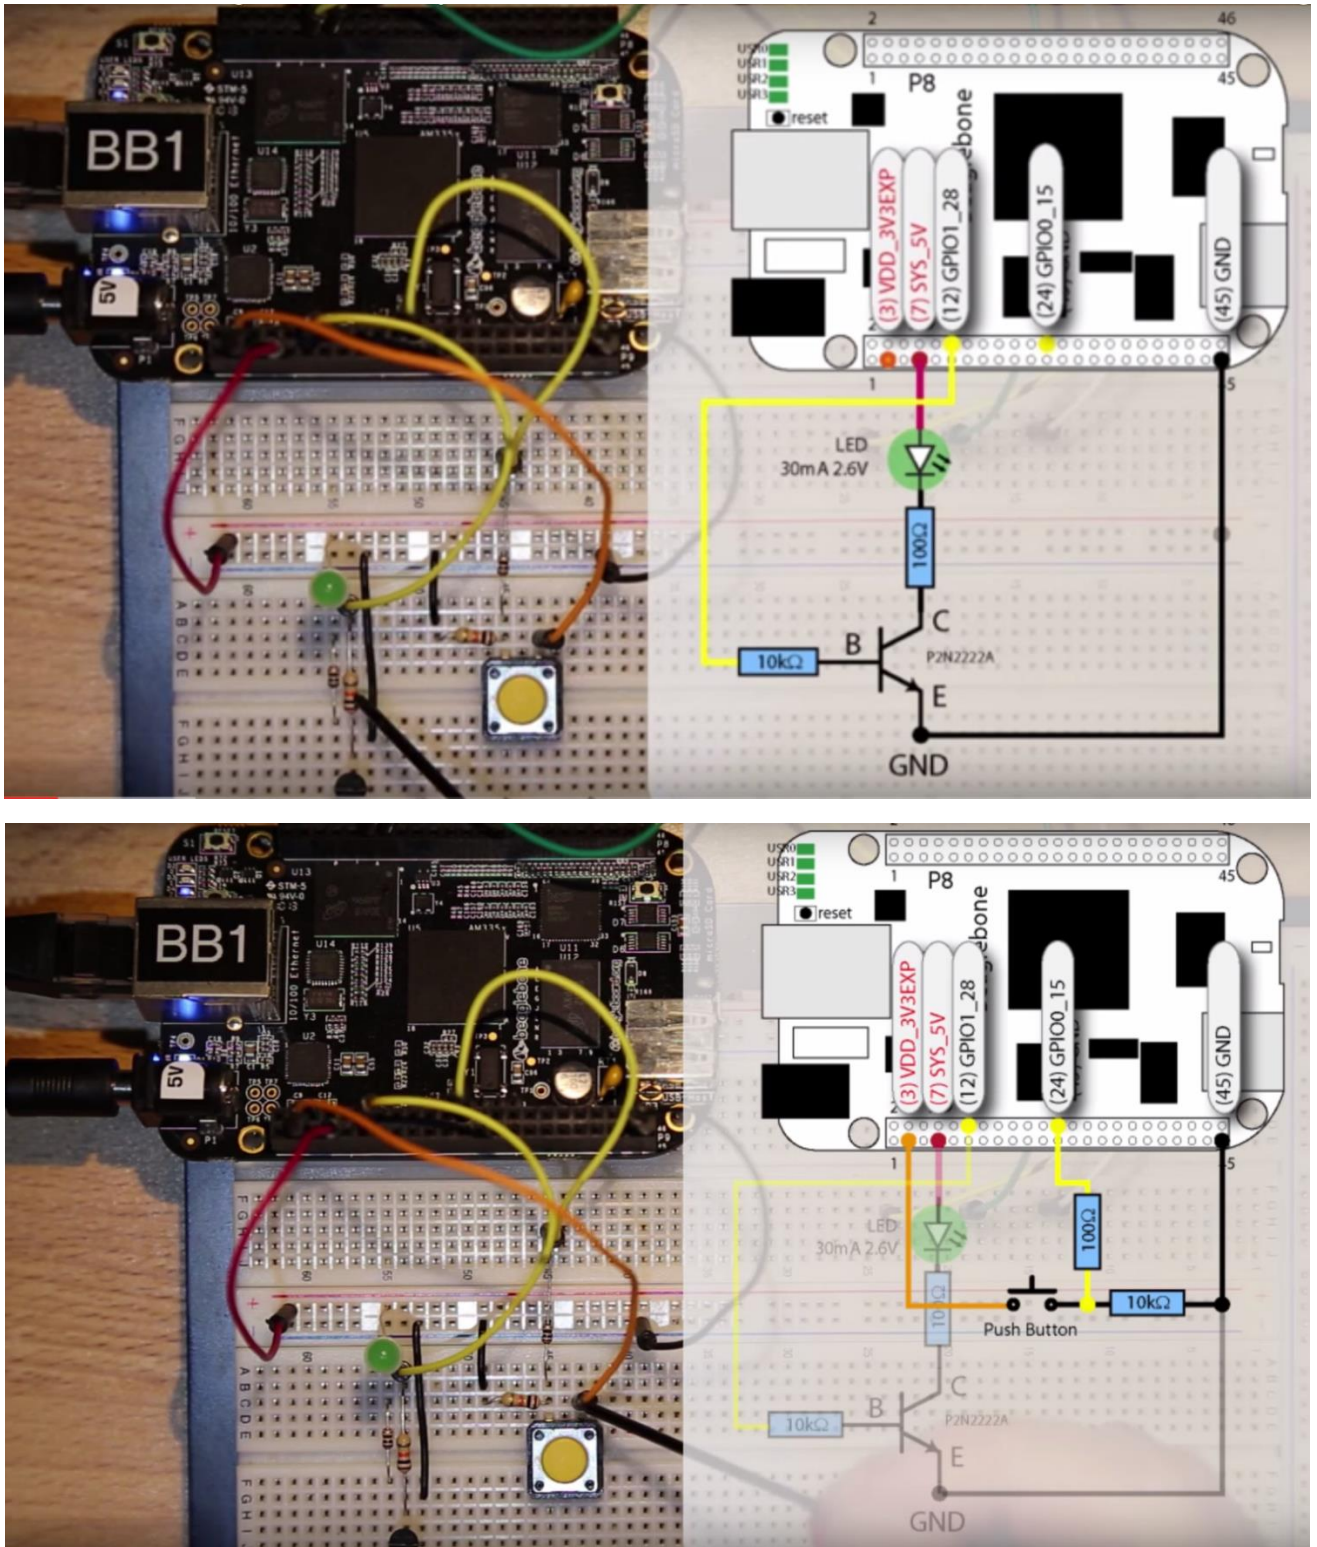

Figure 1 – LED and button connection to BBB using GPIO.
2. As a basis for the project development you can implement a circuit shown in Figure 1 below. The circuit includes: 1 LED, 1 push button, 1 2N2222A NPN transistor, 2 10kOhm and 2 100Ohm resistors. These components are available in lab 7.327 – check electronic component kits that you may have used in the Electric Circuits course labs in Year 2.